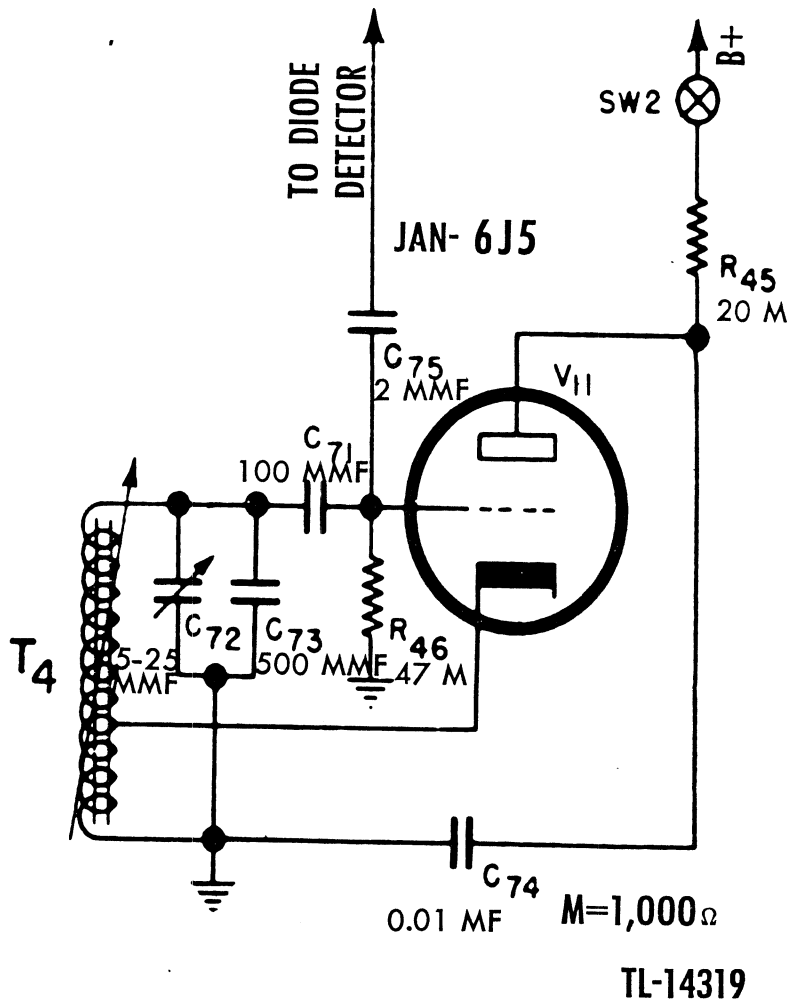

Figure 19. Beat-frequency oscillator, schematic.
20. BEAT-FREQUENCY OSCILLATOR (fig. 19).